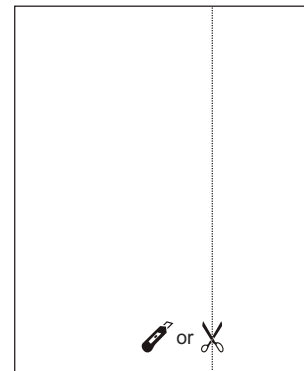

Fig.12
Step 2. Mark the width measured in Step 1, less 1/8" onto the R1 insulation panel. Draw a line at this measurement and cut the panel along this line. Fig. 12.